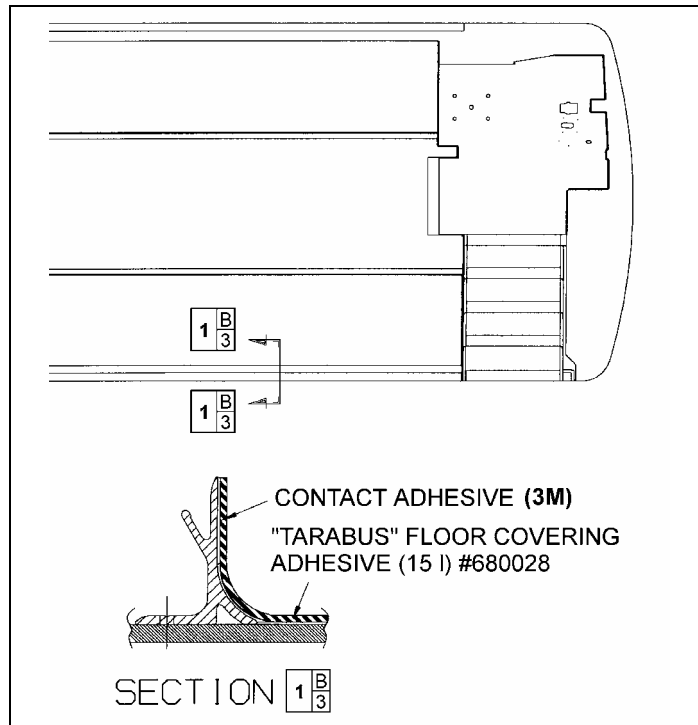

FIGURE 35: TARABUS FLOOR COVERING ADHESIVE APPLICATION
4. Remove 2 cap screws, nuts, and washers holding seat frame to side wall and retain the 2 holding brackets. See figure 35.
6. Apply floor covering adhesive (680028) onto plywood using a serrated spreader with 1/8-inch serration. If required, apply contact adhesive (3M) (684655 or 684654) onto aluminum molding and also onto section of floor covering, which will be in contact with molding (refer to figure 35).